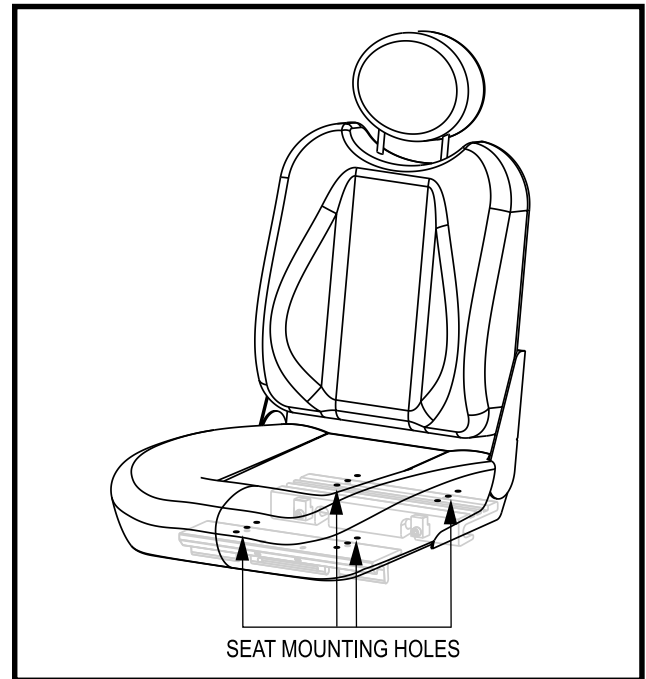

Figure 22. Seat Mounting Holes
5. Reposition the extrusions on a different set of mounting holes. You must move both extrusions the same number of holes either forward or rearward. See figure 22.